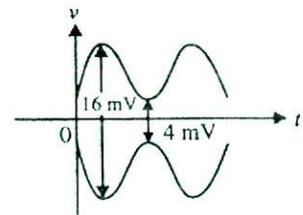

Fig. 18.5
**Solution.** Fig. 18.5 shows the conditions of the problem.